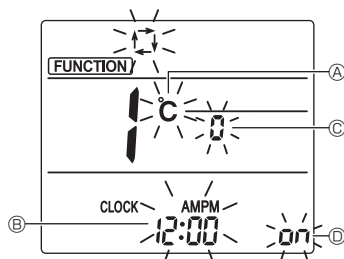

Fig. 6-12
3. Check that function No. "1" is displayed, and the SET button ③ press the button ③. The display setting screen will be displayed. (Fig. 6-12)